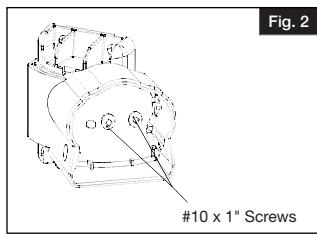

Fig. 2
- 2** Pre-drill $\frac{1}{8}$ " diameter holes in base of top bracket only. Then, fasten bracket to base at the determined angle with two #10 x 1" square drive screws (Fig. 2).